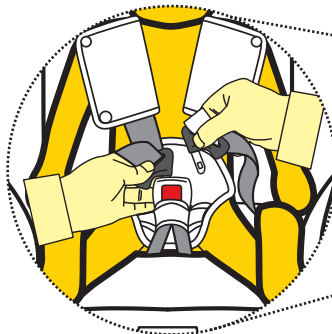

Figure 3
Step 3: Place child in restraint with legs either side of the buckle, place harness over the shoulders and hips (refer Figure 3).